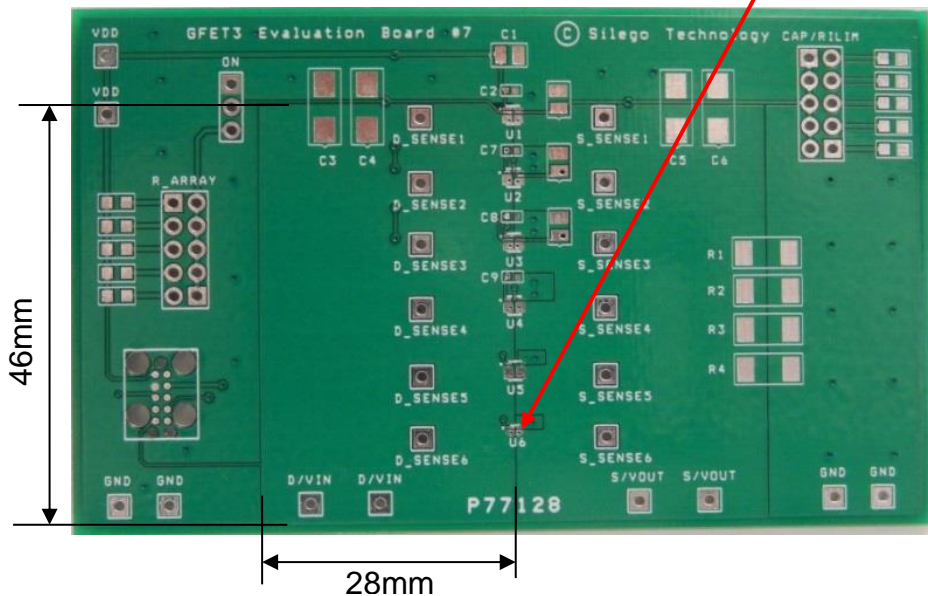

Figure 3. SLG59M1556V Evaluation Test Board
2.2. The D/VIN and S/VOUT pins carry significant current. Please note how the D/VIN and S/VOUT pads are placed directly on the power planes in Figure 3, which minimizes the RDS(ON) associated with long, narrow traces. The D/VIN, S/VOUT and GND pins dissipate most of the heat generated during high-load current condition. The layout shown in Figure 3 is illustrating a proper solution for heat to transfer as efficiently as possible out of the device.